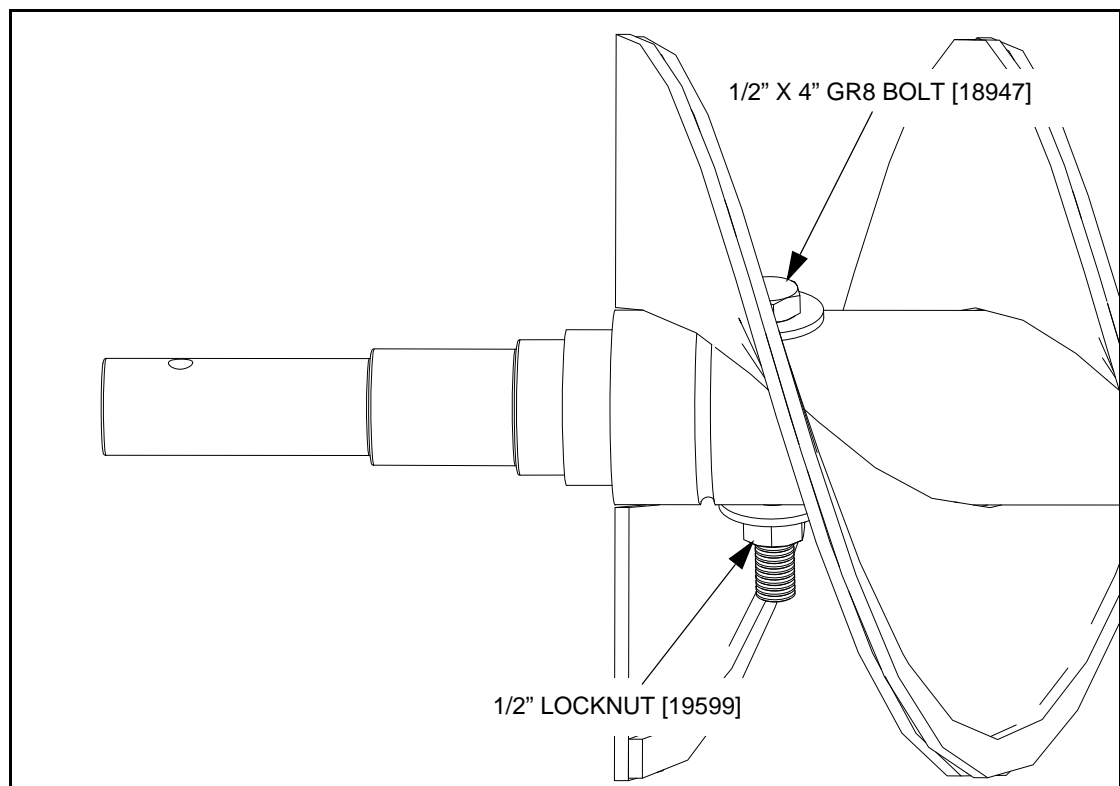

Figure 3.12 Check Boot Flight Bolt and Nut
1. The boot flighting comes pre-installed on the end of the lower tube flighting shaft (See Figure 3.12). Ensure that the flighting is fastened with a 1/2" X 4" GR8 bolt and locknut.